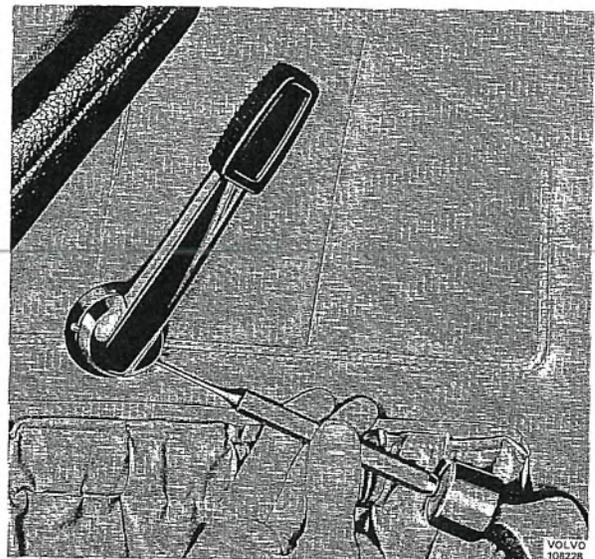

Fig. 8-10. Removing inside lock handle
2. Remove the inner door opener by knocking in the pin with a suitable drift (see Fig. 8-10).